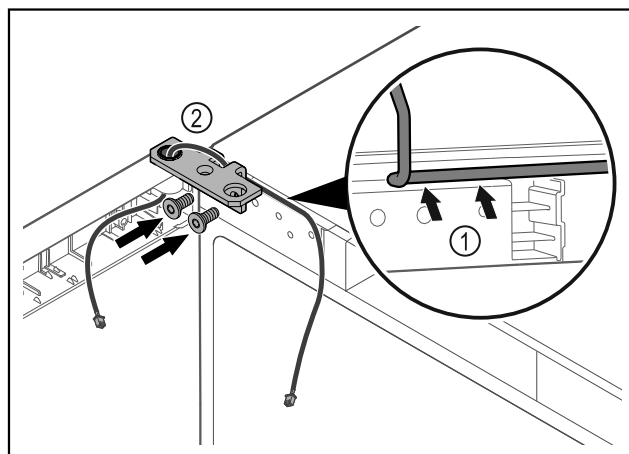

Fig. 34
- Feed the cable through the recess in the hinge and lay it carefully Fig. 34 (1).
- Screw on the hinge Fig. 34 (2).